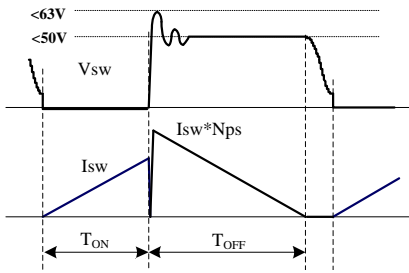

Figure 1. the operation waveform of SW
- 4) The conduction time of secondary diode, T_{OFF} , should be longer than 800ns when SW current is minimum (0.3A). Refer to Figure 1.
As the Figure 1 shows, the reflected output voltage plus V_{IN} should be below 50V for practical design. This leaves at least 15V headroom for the voltage spikes caused by the leakage inductance. Generally, the maximum spike voltage should be less than 65V with reasonable margin, such as 5-10% of the device voltage rating, for example 2-5V. A proper design of transformer turns ration and snubber circuit is necessary to achieve these requirements.